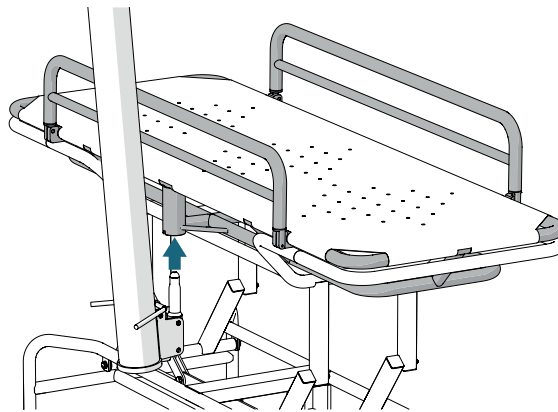

Figure 7 - Inserting the lift pin into the lift sleeve.
3. Move the accessory so that the lift pin is directly under the accessory's lift sleeve (see figure 7).